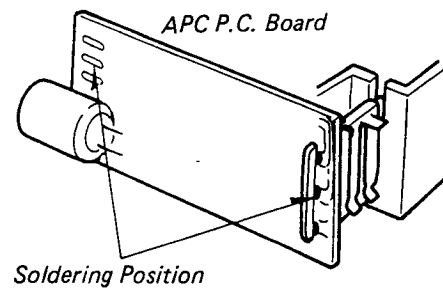

Figure 22
6. Desolder terminals of the APC P.C. Board (fixed with double sided adhesive tape) and remove the P.C. Board. (Figure 22)